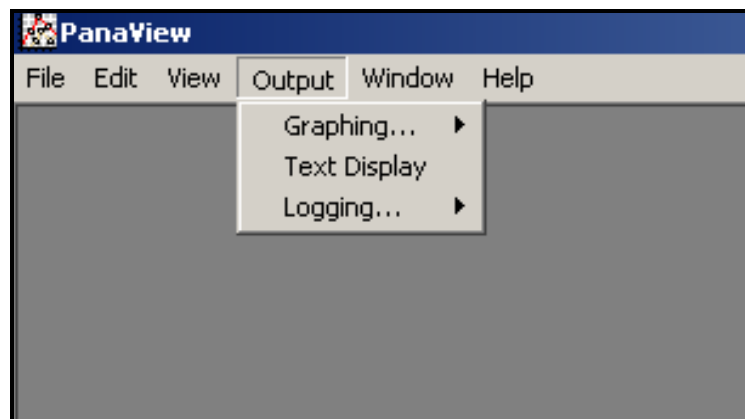

Figure 2-1: The Output Menu
To access PanaView's data handling options, pull down the *Output* menu, as shown in Figure 2-1 below.
2. Pull down the *Output* menu and click on the *Text Display* option (see Figure 2-1 on page 2-4).
2. Pull down the *Output* menu and click on the *Graphing - New* option (see Figure 2-1 on page 2-4).